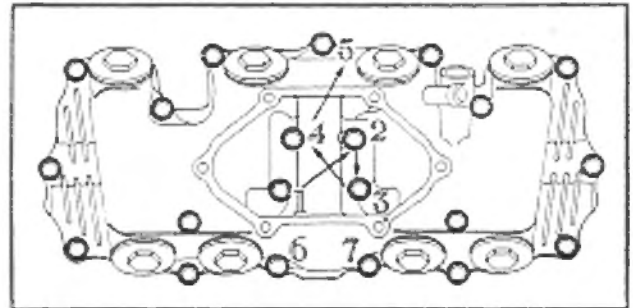

Fig. 3-24 Tightening sequence of cylinder head cover bolts
2. Tighten the bolts securing the cylinder head cover in the sequence as shown in Fig. 3-24.